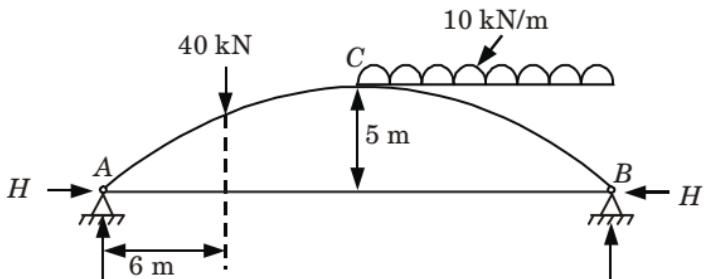

Fig. 43.
- a. A three hinged parabolic arch of span 30 m and central rise of 5 m. It is subjected to a concentrated load of 40 kN at mid span. Calculate the normal thrust, shear force and bending moment at 6 m from the left support Fig. 43.